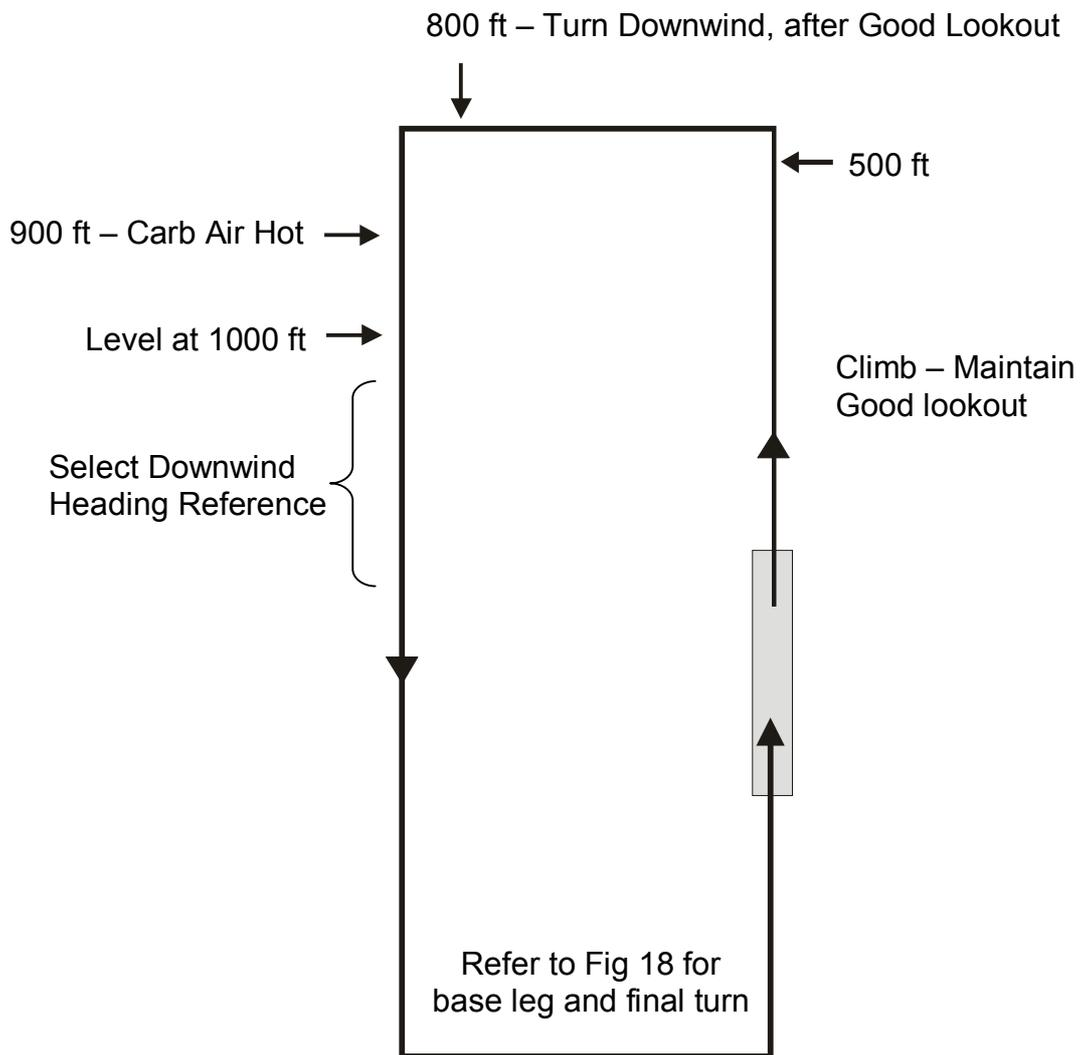

Fig 17 The 1000ft rectangular circuit
3. **The 1000ft rectangular circuit.** (Fig 17).